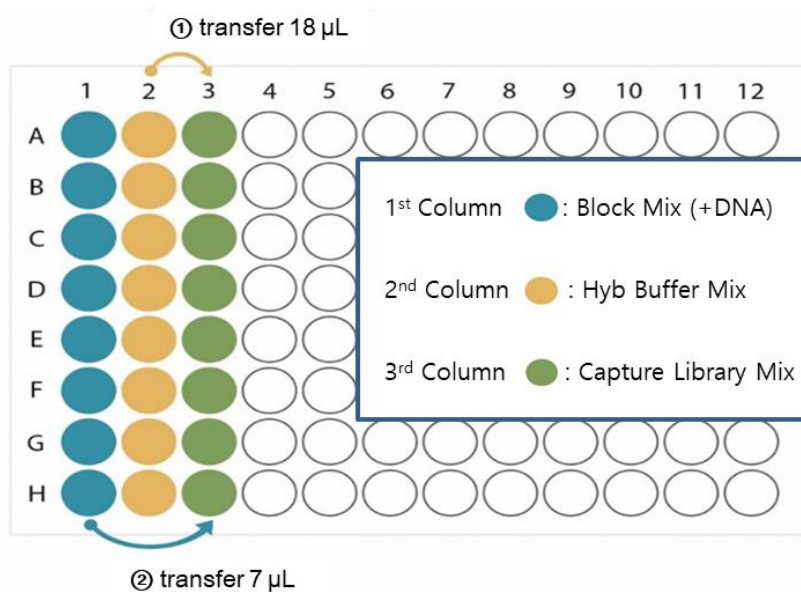

Figure 2. Mix all reagents in the 96-well PCR plate
\*When using the 96-well PCR plate, transfer reagents into the well (or lane) containing Captured Library Mix. See **Figure 2** before proceeding.
- g. **Slowly pipette Hyb Buffer Mix up and down 2-3 times and transfer 18  $\mu\text{L}$**  into **Capture Library Mix** of the PCR tube (or PCR plate) and mix well by pipetting up and down 2-3 times (Figure 2. ①).
- h. **Transfer 7  $\mu\text{L}$  (entire amount) of Block Mix with DNA library** into the PCR tube (or well) that contains reagents (Hyb Buffer Mix and Capture Library Mix) and mix well by pipetting up and down 2-3 times (Figure 2. ②).